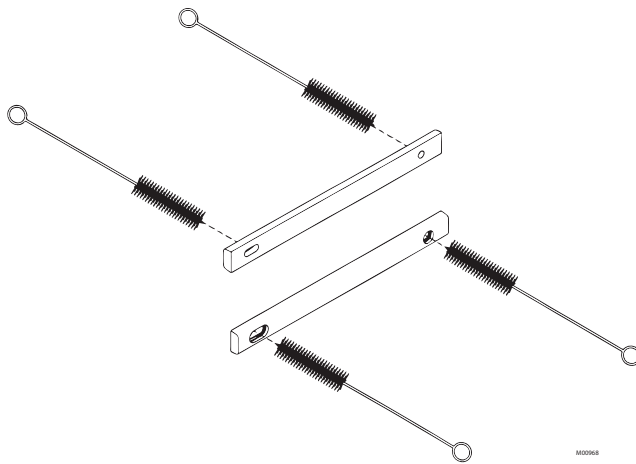

Figure 6-8 Clean scraper blades
d. The beater shaft and the scraper blade pin holes, shown in figure 6-8.